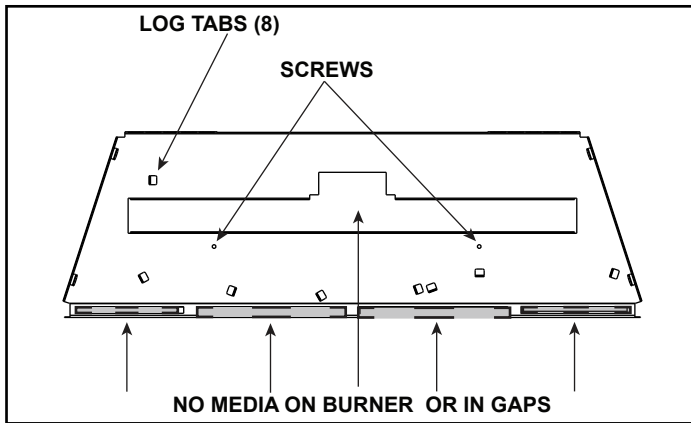
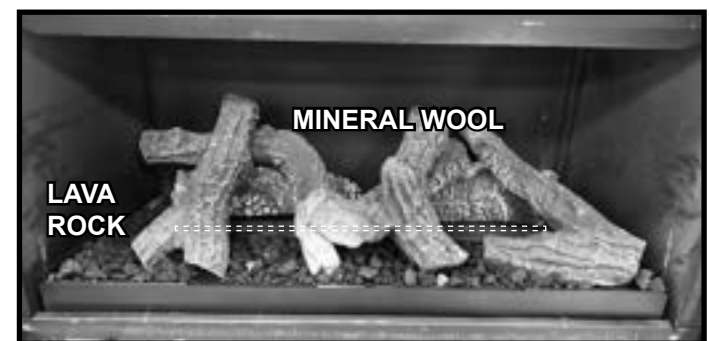

Figure 16. COSMO36-IFT-B Empty Base Pan
Figure 24. Properly Placed Lava Rock / Location for Mineral Wool
**COSMO36-IFT-B, B41L-AU:** Bend 8 tabs. See Figure 16.
15. Place lava rock onto areas of the base pan to fill in around the logs as desired. It is acceptable to completely cover the basepan. DO NOT cover burner, gaps behind burner or air tab. DO NOT block the space in front of the pilot assembly. See Figure 16. Place lava rock in a single layer so no sheet metal is showing. Figure 24 shows lava rock properly placed in relation to logs and areas that must be avoided.